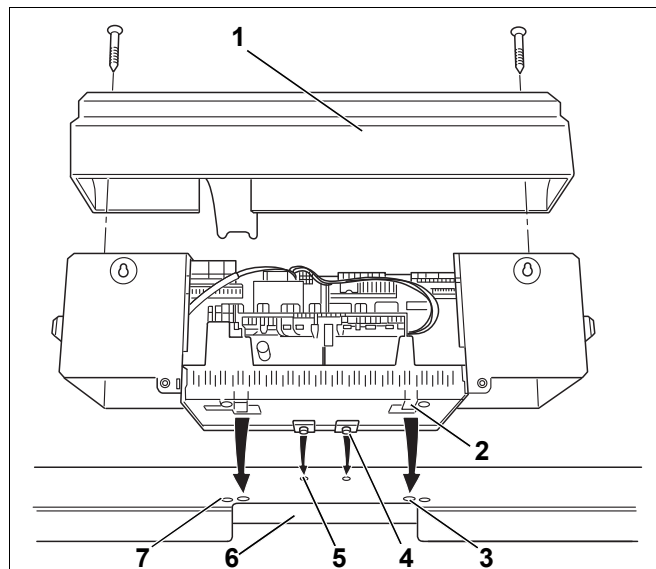
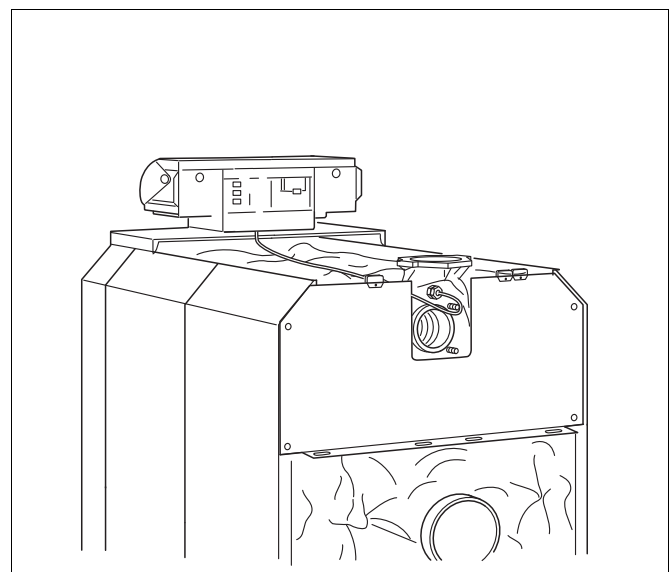

Fig. 60 Installing the control device
Fig. 65 Boiler with installed control device
Figure 60 shows the control unit and the front cover "A" as viewed from the rear.
- Loosen both screws (Fig. 60, [1]) securing the terminal cover. Remove the terminal cover by pulling it upwards.
- Mount the control unit. Insert the control unit at the front of the boiler with the locating tabs (Fig. 60, [4]) into the oval apertures of the front boiler hood (Fig. 60, [5]). Pull the control unit forward and then pivot it back. Ensure that the resilient hooks (Fig. 60, [2]) engage at the rear into the rectangular apertures of the front boiler hood (Fig. 60, [3]).
- Secure the control unit base on the r.h. and l.h. side of the cable way (Fig. 60, [6]) in the front boiler hood with two self-tapping screws (Fig. 60, [7]).
- Fit the terminal cover (Fig. 60, **[1]**) with two self-tapping screws and secure on the control unit base (Fig. 65).